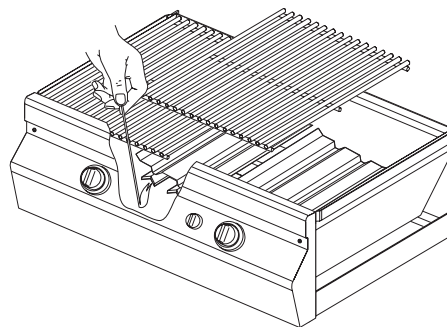

Figure 9 - Manual Lighting
**REMEMBER:** FOR SAFE MANUAL LIGHTING, PLACE A BURNING MATCH OR BUTANE LIGHTER BESIDE THE BURNER - **THEN TURN ON THE GAS** (Figure 9).